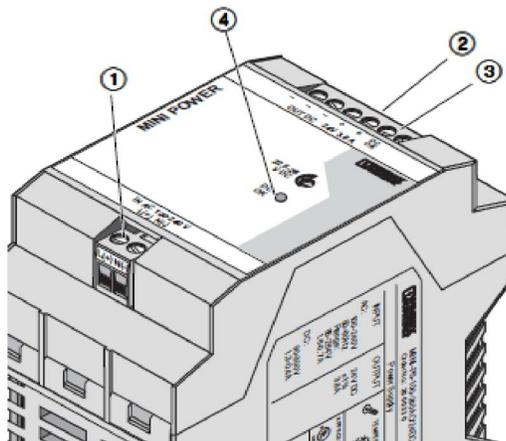

Figure 34: Phoenix Contact MINI-PS-100-240AC/24DC/C2LPS I/O connections
4.1.1 Input (1, Figure 34)
4.1.2 Output (2, Figure 34)